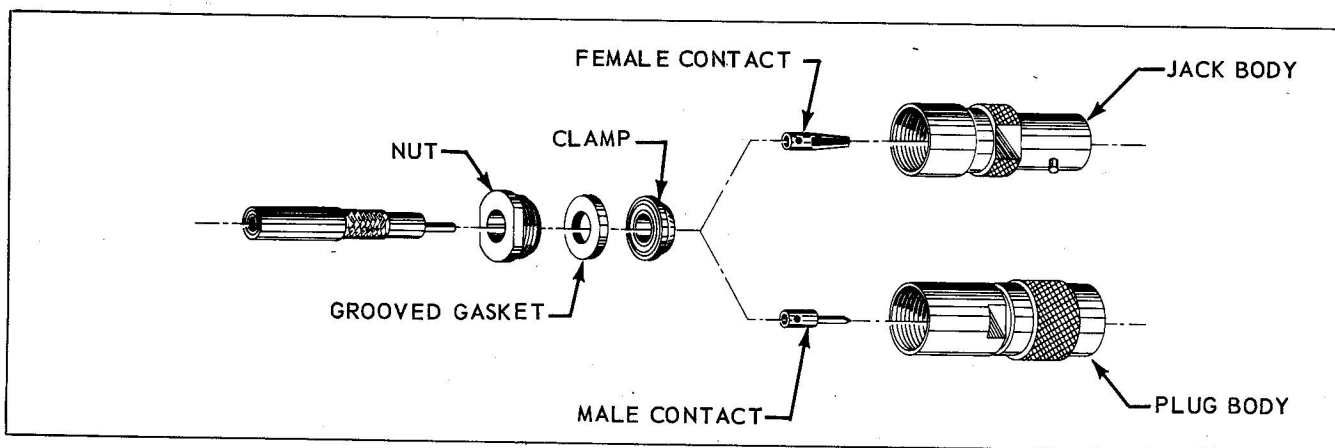

Figure 4-32. C Connectors - Exploded View
4-44. C CONNECTORS. (See Figure 4-4.) There is only one version of C connector. It consists of a body assembled to coaxial cable by means of a nut, gasket and sleeve clamp. Table XXIX lists the more common connectors in the C series and shows the coaxial cables associated with each. Plug UG-573A/U and Jack UG-572/U are typical C connectors. See Figure 4-32.
a. Disassemble nut, gasket and sleeve clamp from plug or jack body. See Figure 4-32.